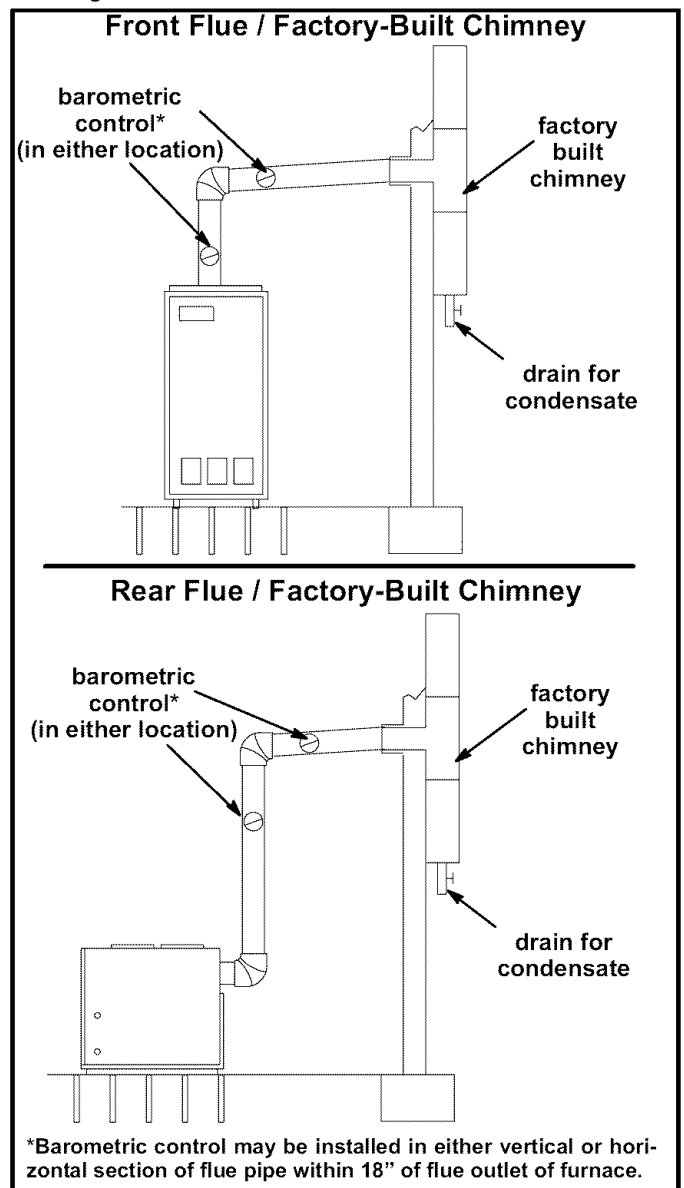

Figure 7
- 15- All vent pipe run through unconditioned areas or outside shall be constructed of factory built chimney sections. See figure 7.